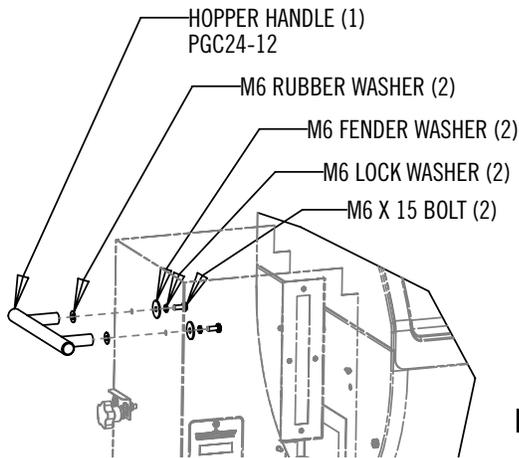

Fig. 6
1. Install hopper handle as shown in Fig. 6.